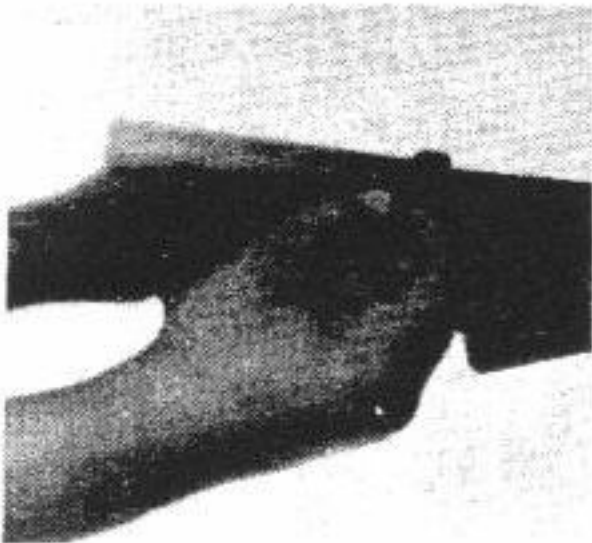

Fig. 5
Step 6: Pull the bolt carrier/bolt assembly to the rear of the receiver (fig. 5). Remove the entire assembly.